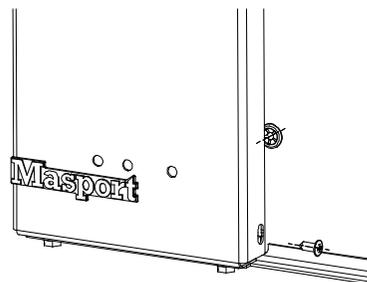

**Fig. 1**
- 2) Take the top panel and align the holes at its ends with the holes in the side panels. Using the flat head screws provided, attach the top of the side panel's to the top panel (the holes in the top panel are slotted to facilitate easier installation). See Fig 1.
- 3) Next the Fascia stiffener is attached to the Fascia. Attach the stiffener to the bottom of the fascia side panels with the screws provided. See Fig.1.